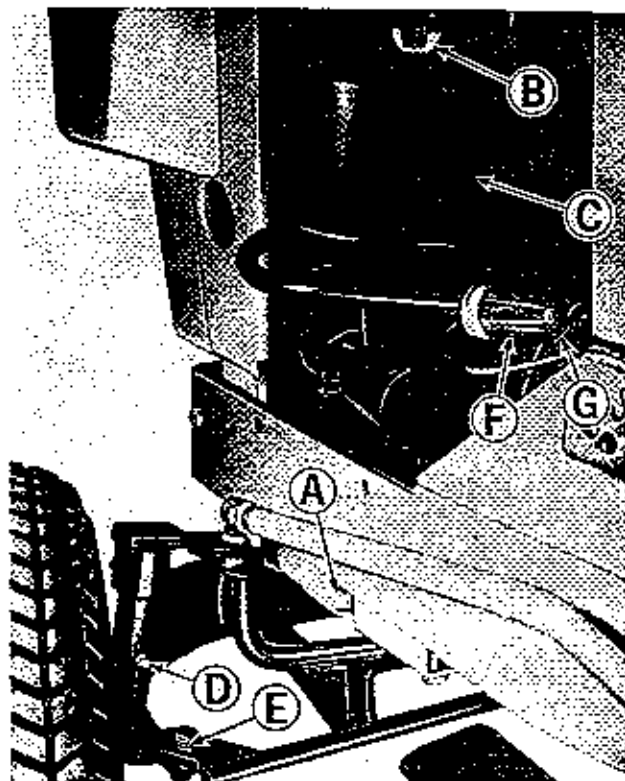

Figure 21. Left front of tractor.
2. See figure 21. Remove the drain plug (A) from the bottom of the engine base and allow the oil to drain.
1. See figure 21. Remove the wing nut (B) and cover (C) from the air cleaner unit.
5. See figure 21. Replace the air cleaner cover (C) and fasten it securely with wing nut (B).
Left Spindle	Figure 21, Item D
Left Tie Rod End	Figure 21, Item E
1. See figure 21. Remove wing nut (B) and cover (C) from the air cleaner.
7. See figure 21. Replace cover (C) and wing nut (B) and tighten securely.
**REPLACE FUEL FILTER:** See figure 21. Every 100 hours or more often under dirty field conditions, the fuel filter (F) should be replaced. **CAUTION: DO NOT REMOVE THE FUEL FILTER WHEN THE ENGINE IS HOT, AS SPILLED GASOLINE MAY IGNITE. USE CARE WHEN REMOVING AND INSTALLING CLAMPS (G), NOT TO SPREAD THEM ANY MORE THAN NECESSARY AS THEY MAY TAKE A SET AND NOT HOLD THE HOSE TO THE FILTER PROPERLY.**